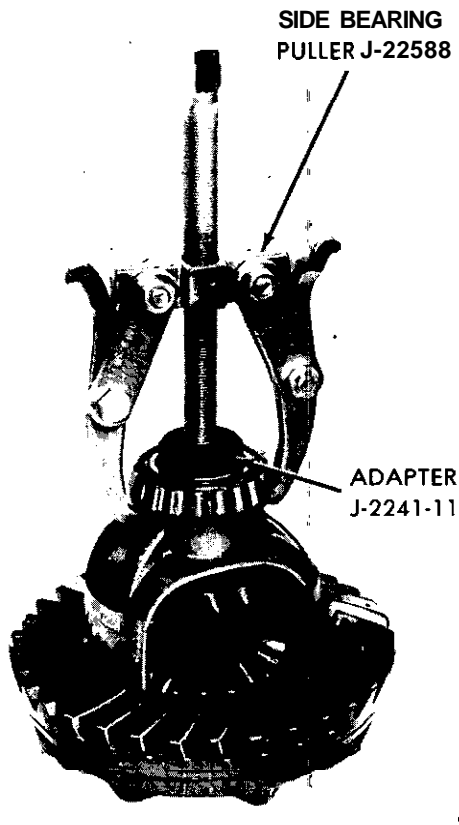

Figure 4B-6 Removing Differential Side Bearings
12. Insert adapter J-2241-1 1 in differential case bearing hub and remove side bearings using puller J-22588 with adapter leg J-22939. See Figure 4B-6.